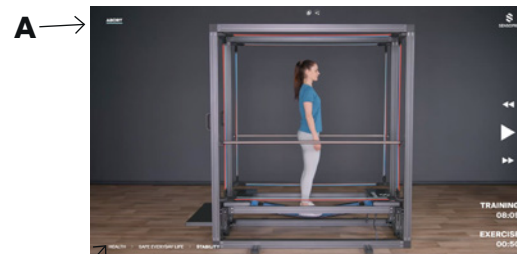

Figure 3:
6. During the training session you can show and select the pause/play and forward or back buttons (figure 3). To get back into programmes, touch abort (A on figure 3). Alternatively, in the training pathway at bottom left you can touch the programme name or the category to access the desired view (B on figure 3).